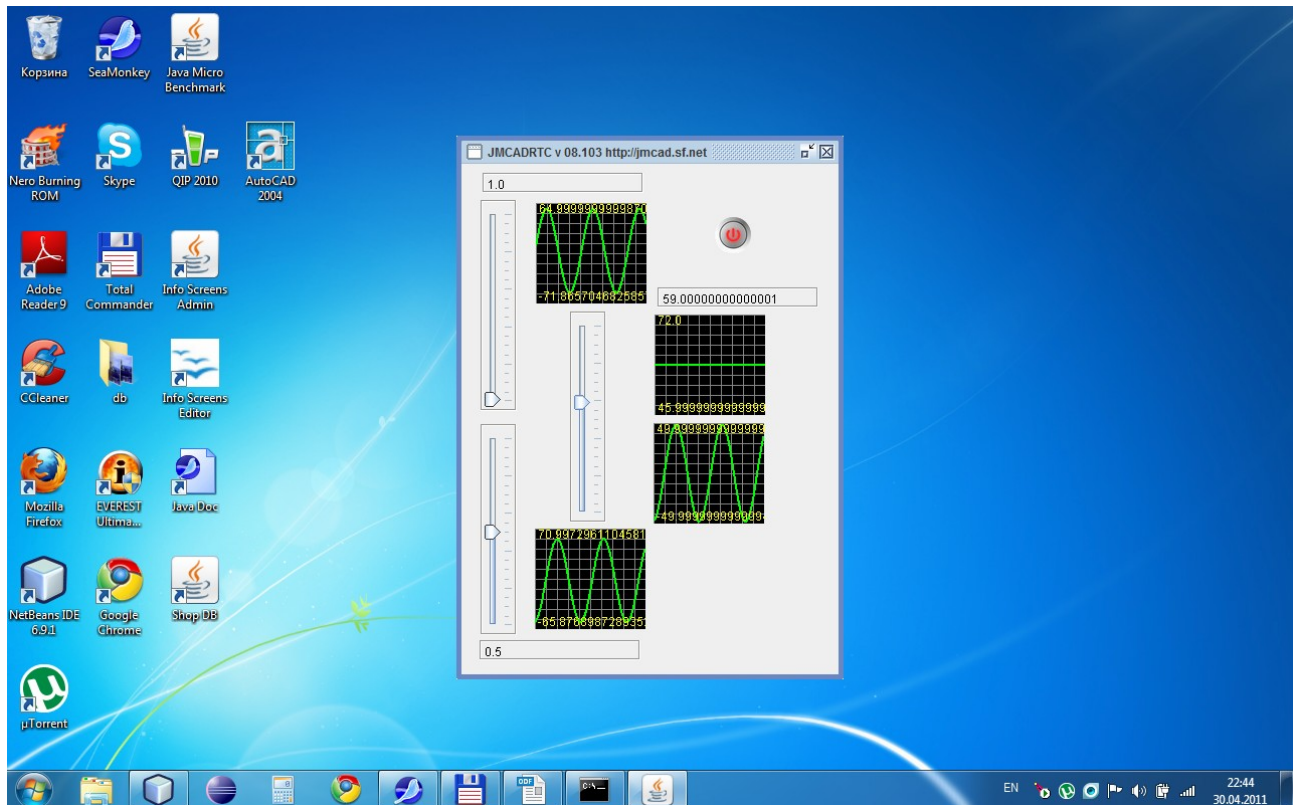

Fig. 3
*JMCADRTC* - block for the interface and control model (Fig. 3). Starting the interface and control model is produced via the command line.
- ***isVisual*** — variable defines the appearance of the item when it is used in the interface and control model (Fig. 3). The default value is ***false***, which makes the element visible in the interface and control model;